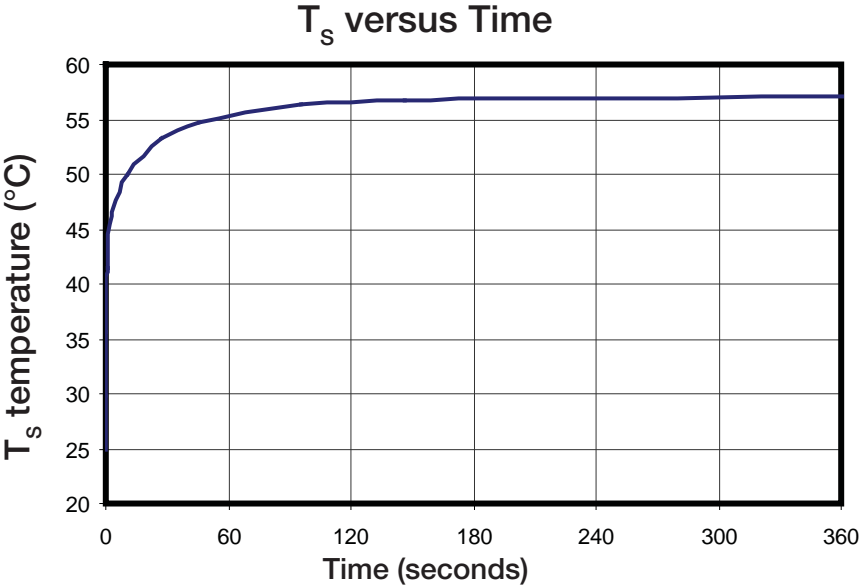

Figure 4. T_s versus time. The temperature has not changed much after 3 minutes.
11. Power up and start recording the T_s until temperature stabilization is achieved. This may take a minute or more depending on the overall thermal design. See Figure 4.
12. Use equation (3) to calculate the junction temperature T_j .
Using the data from Figure 4, the equilibrium temperature for T_s is about 57°C.